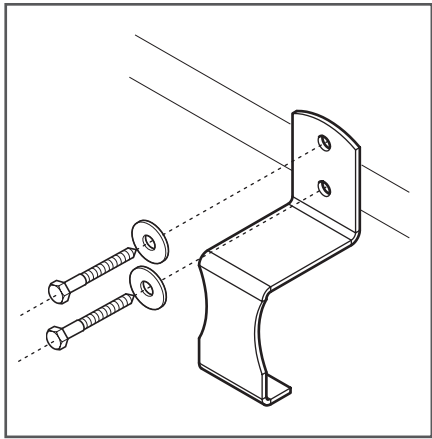

Figure 5
6. Loosly attach an end bracket (B.) to the wall using two washers (E.) and two lag screws (H.). Do not tighten (Figure 5).